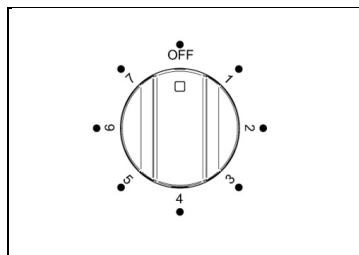

Fig 20A
- 2 Turn the grill control knob (Fig.20A-20B) clockwise to the maximum setting 7. The adjacent red thermostat light will illuminate. For best results you should preheat the grill for 3-5 minutes.